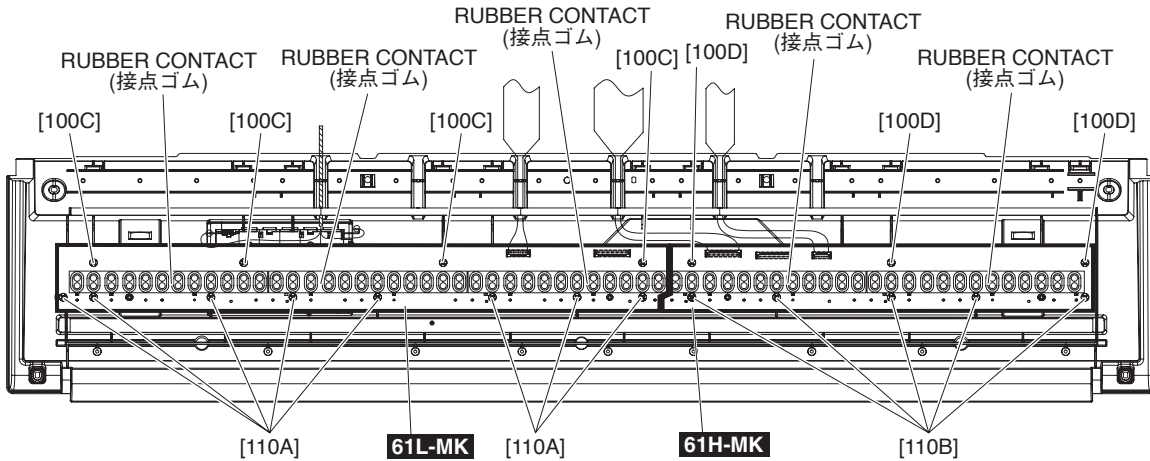

Fig. 10(図10)
- 15-4-2 Remove the rubber contacts. (Photo 2, Fig. 10)
- 15-4-2 それぞれの接点ゴムを外します。(写真2、図10)
- 15-5-2 Remove the four (4) screws marked [100C] and eight (8) screws marked [110A]. The circuit board 61L-MK can then be removed. (Fig. 10)
- 15-6-2 Remove the three (3) screws marked [100D] and five (5) screws marked [110B]. The circuit board 61H-MK can then be removed. (Fig. 10)
- 15-5-2 [100C]のネジ4本と[110A]のネジ8本を外して、シート61Lを外します。(図10)
- 15-6-2 [100D]のネジ3本と[110B]のネジ5本を外して、シート61Hを外します。(図10)